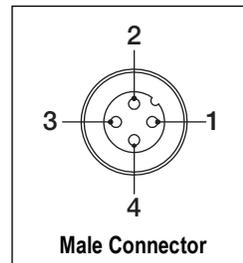

Figure 2-9. SENDit Transmitter Cable Connection
- Connect the 4-pin load cell cable to the Load Cell Input connection cable on the SENDit transmitter. See Table 2-2 and Figure 2-9 for wiring information.